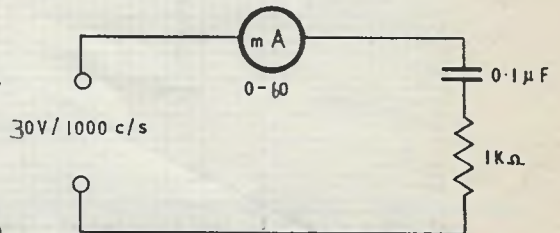

FIG. 2.
**STEP 1.** Connect the circuit as shown in Fig. 2.